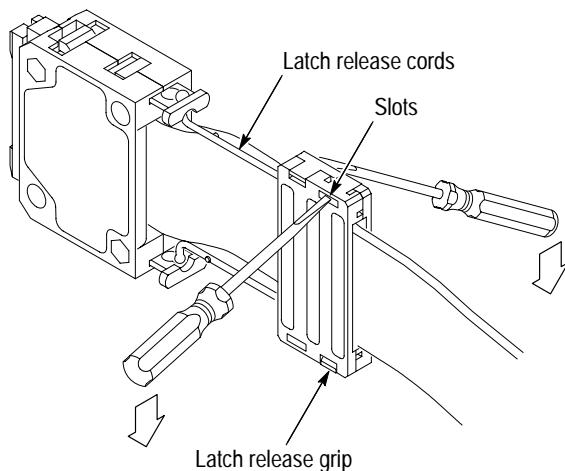

Figure 3: Disassembling the latch release grip
1. Use two small, flat-bladed screwdrivers in the slots opposite the tabs on each side of the grip as shown in Figure 3.